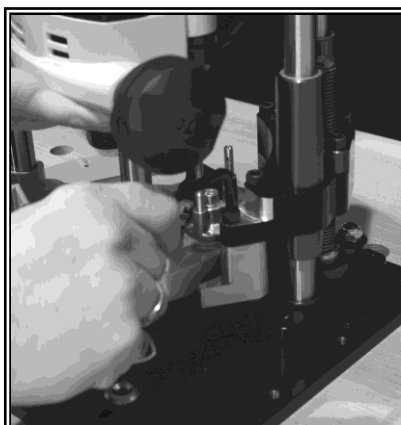

Figure 7
8. Pull upward on the router until it contacts the right carriage bracket. Secure it in place using three (3) 1-1/2" cap screws and one (1) 1" cap screw. (See Figure 7.)